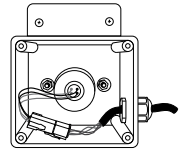

FIGURE 2
2. Once the UV bulb has cooled off remove the CLEARRAY unit enclosure cover (9) and gasket (8) by removing the four screws (10). This will expose the UV bulb and connections, Figure 2.